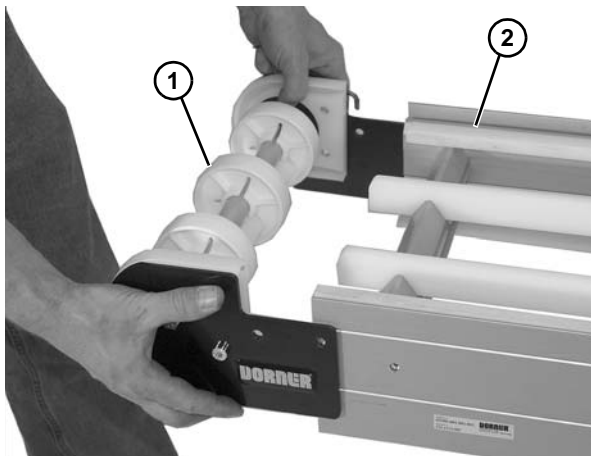

Figure 67
3. Remove idler assembly (**Figure 67, item 1**) from conveyor (**Figure 67, item 2**).